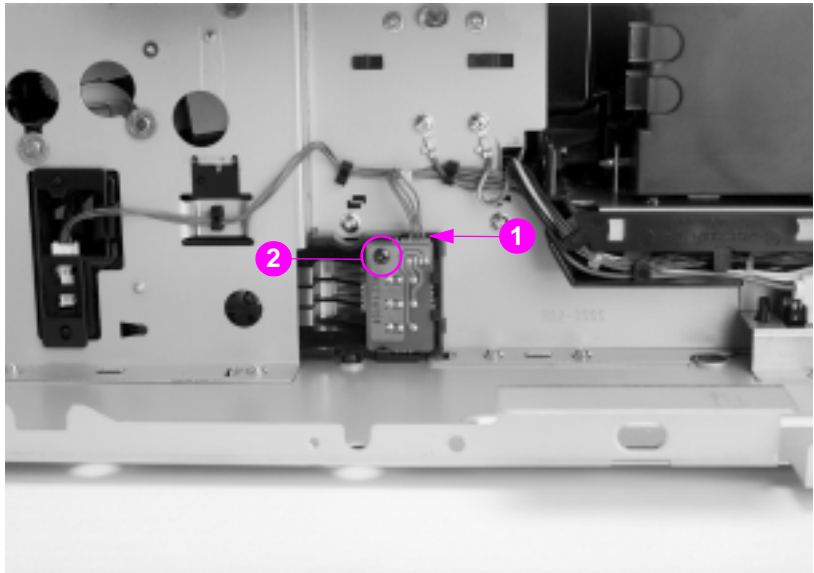

Figure 6-38 Paper size switch removal and replacement
- 2 Disconnect the connector as shown in Figure 6-38 (callout 1).